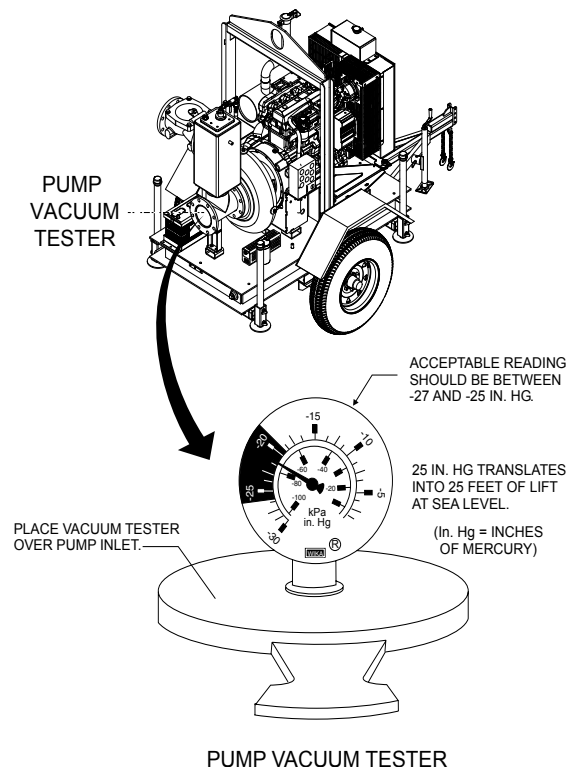

Figure 38. Dry Pump Vacuum Test
3. Block the suction with a plug or heavy rubber flap as shown in Figure 38. An accurate vacuum gauge should be installed in the plug or flap to check vacuum system performance and pump vacuum gauge.